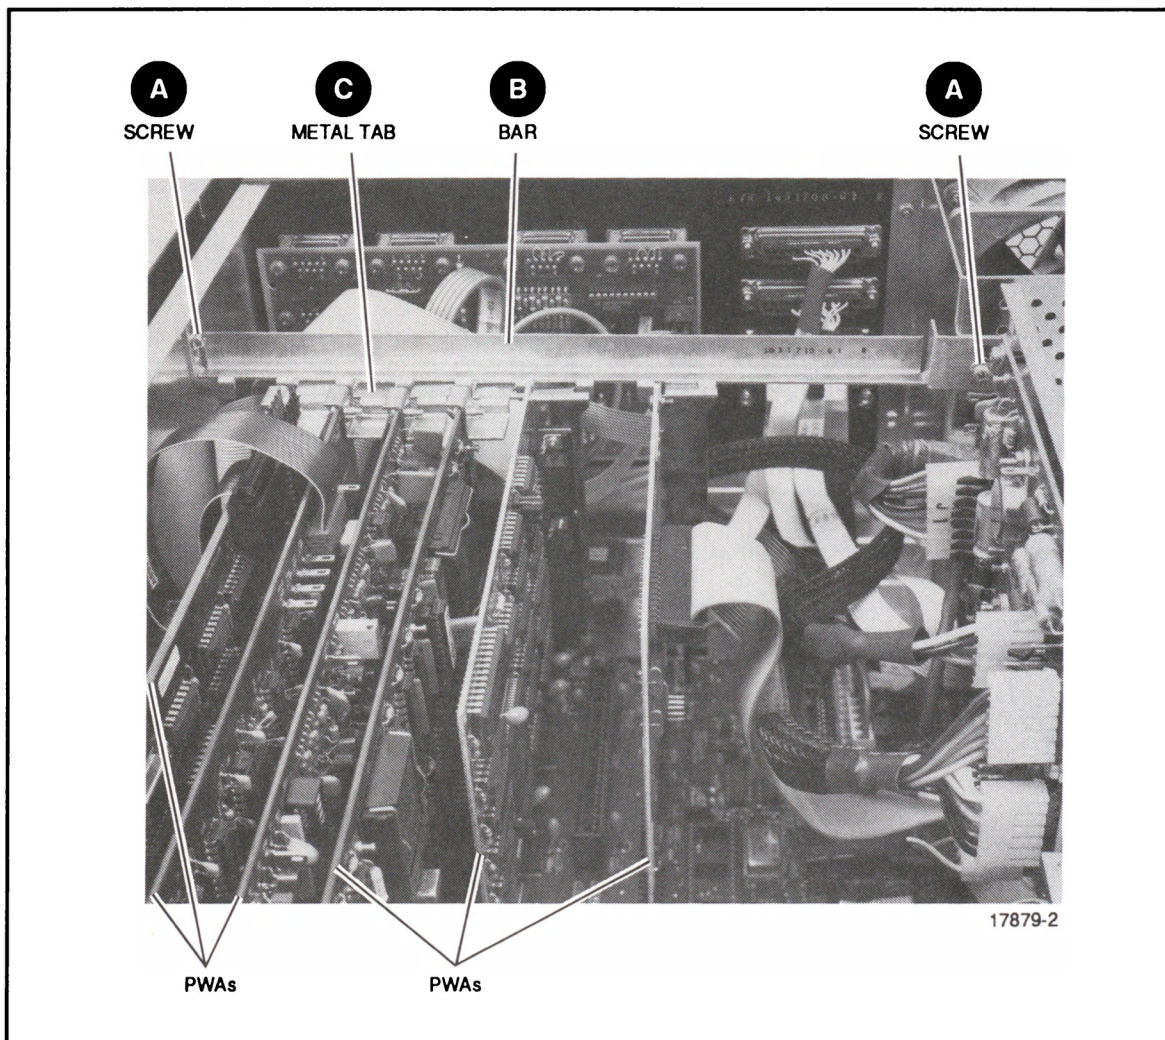

Figure 4-4. PWA Removal
The following procedure is used to remove PWAs from the I/O bus slots of the CPU Mother-board PWA. See Figure 4-4.
3. Remove 2 cross-recessed screws securing bar holding PWAs in place. See Figure 4-4 [A].
4. Remove bar by lifting end attached to shielding for Power Supply (see figure 4-4 [B]).
6. Carefully remove PWA by pulling up on metal tab attached to PWA (see Figure 4-4 [C]).